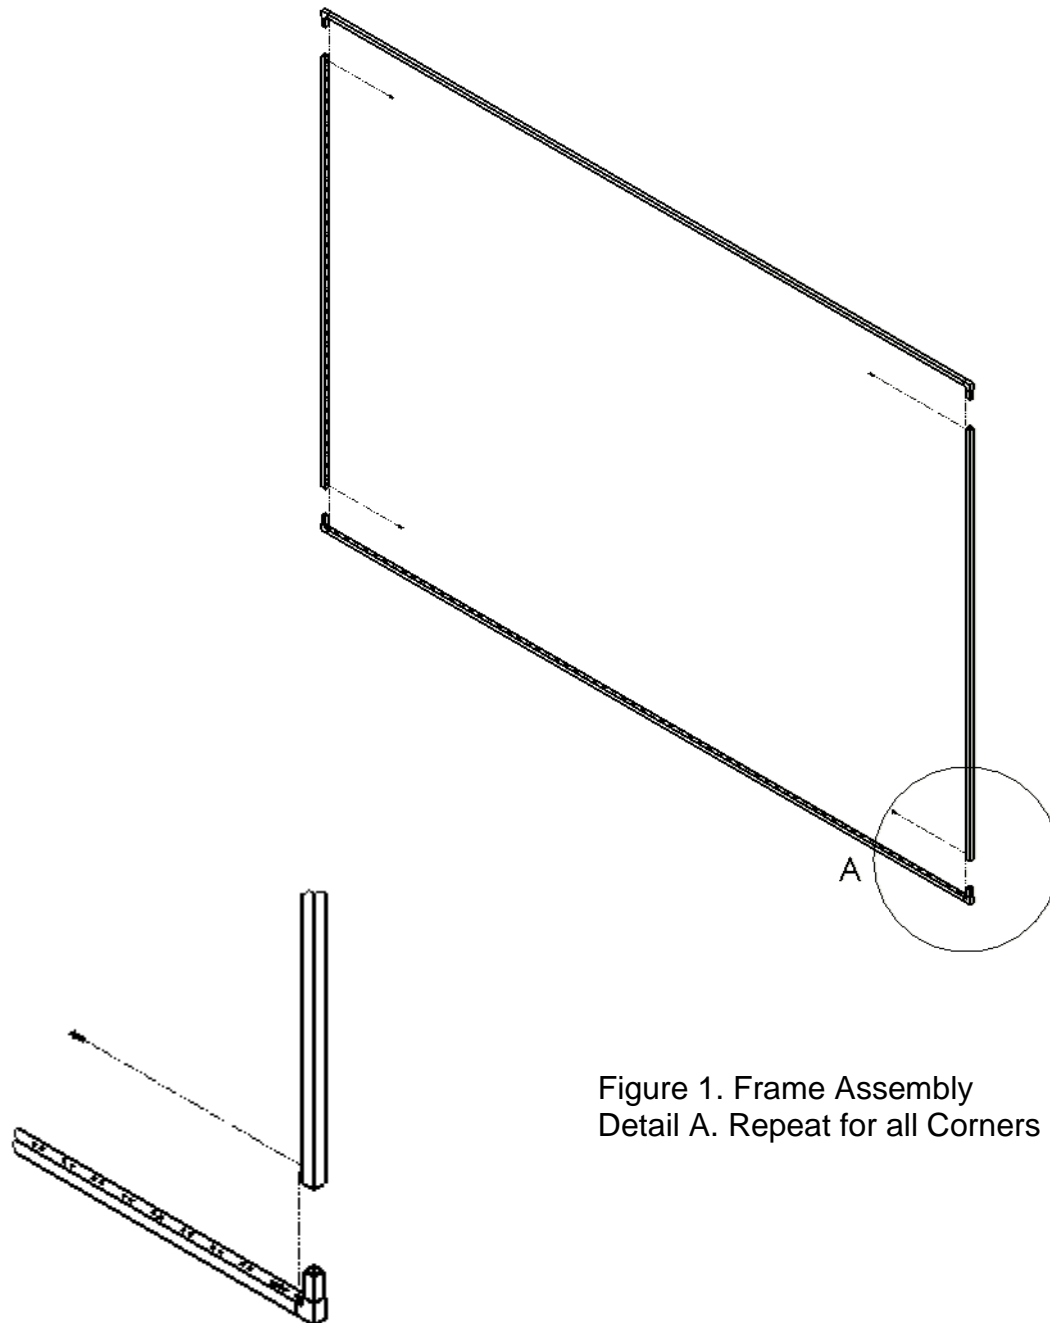

Figure 1. Frame Assembly
1. Connect the frame members by matching numbered dots on the ends of the members (see Figure 1).